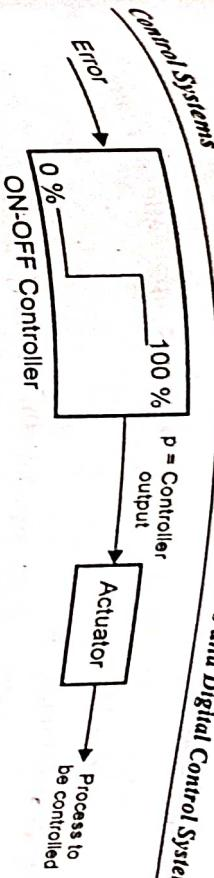

Fig. Q.2.1 Block diagram of ON-OFF controller
- Schematically it is represented as shown in the Fig Q.2.1.